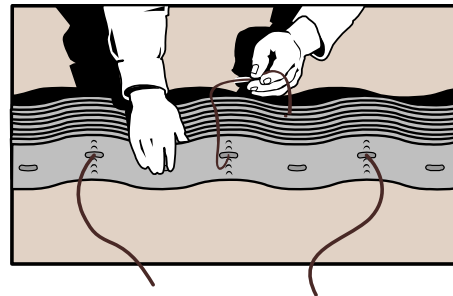

Figure 10 Tendon Insertion
- Feed individual tendons through tendon slots in the collapsed Geoweb® sections prior to section expansion. See Figure 10.